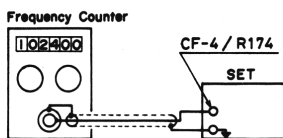

**Figure 21**
**NOTE:** Figure 21 provides test point and alignment location information.
**NOTE:** Figure 21 provides alignment location information.